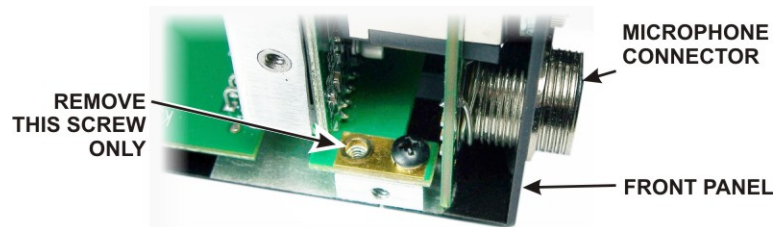

Figure 3. Removing the 2D Screw.
Remove the screw shown in Figure 3. It is located directly behind the front panel microphone connector. There may be a lock washer under the screw. If so, save it with the screw. Removing the screw ensures the pc boards on the front panel assembly will have adequate clearance when the front panel assembly is removed in a later step. Remove only the screw shown. Leave the other screw in place as shown in the figure.
- Replace the 3/16" (4.8 mm) black pan head screw and, if used, lock washer in the 2D fastener (see Figure 3 on page 2).